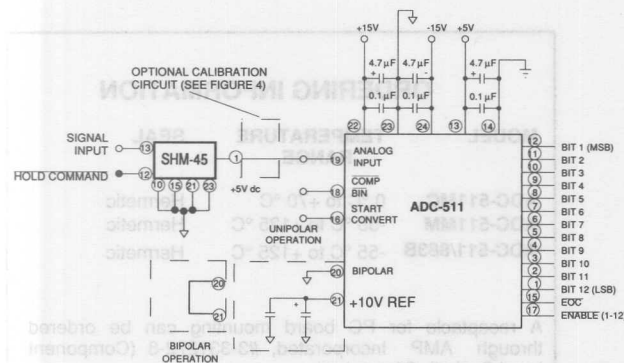
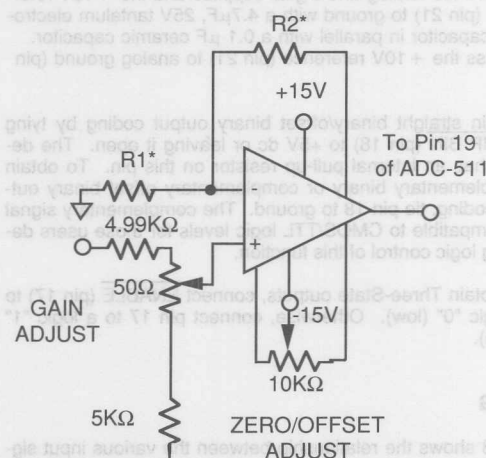

Figure 2. Typical Input Connections for the ADC-511
Figure 4. Optional Calibration Circuit
① Specifications cited are at +25°C. See Technical Note 1 for further information.
② +5V power usage at 1 TTL logic loading per data output bit.
1. The data outputs should be connected to LED's to observe the resulting data values. Connect the converter per Figure 2, Figure 4, and Table 1 for the appropriate Full Scale Range (FSR). Apply a pulse of 200 nanoseconds minimum to the START CONVERT input (pin 16) at a rate of 250 KHz. This rate is chosen to reduce flicker if LED's are used on the outputs for calibration purposes.